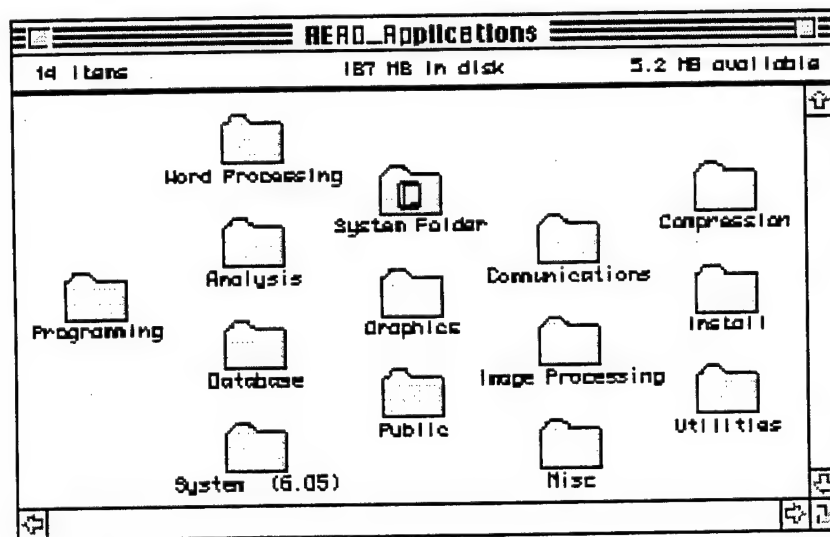

Figure 2.3: Contents of Aero_Applications
clicking. The colors in the icon will now be inverted in appearance, or highlighted. If the window is already open, close it by clicking the "close box" in the top left title bar for the window shown in Figure 2.3.
3. With the mouse still depressed, choose **Open** from the list of commands by *dragging* the pointer down the list and releasing the button when the **Open** command appears as inverse video. The Aero_Applications Icon will open, displaying the contents of the hard disk (See Figure 2.3).